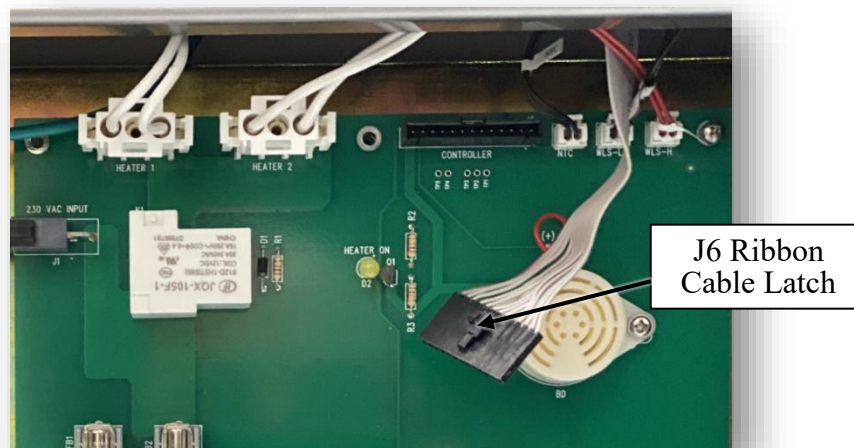

Figure 38 – J6 Ribbon Cable
- Reseat the J6 Control Panel ribbon cable (See Figure 38). Press the latch with a thumbnail (See Figure 38) and wiggle the connector out of the slot. Press the connector back into the slot and ensure it snaps in securely. Power on the SCA and see if the issue is resolved.